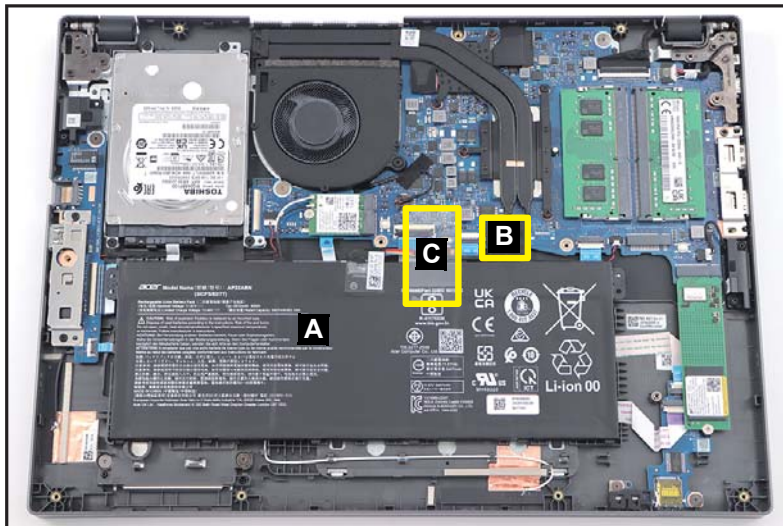

Figure 1-6. Battery Pack Removal
1. Find the battery pack (A) in the system (Figure 1-6).
2. Detach the acetate tape (B) securing the battery cable to the mainboard connector (Figure 1-6).
3. Detach the transparent mylar (C) securing the battery cable (Figure 1-6).